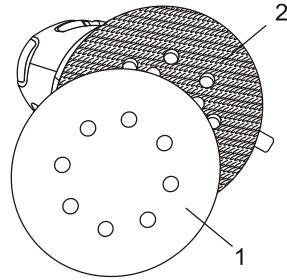

Fig. 1
To install a sanding disc, firmly press the sanding disc (1) onto the hook & loop pad (2) (Fig. 1).